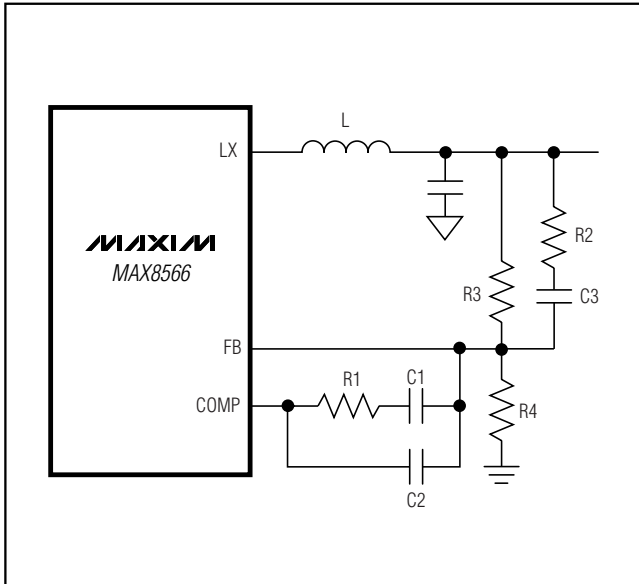

Figure 4. Type 3 Compensation Network
The high switching frequency range of the MAX8566 allows the use of ceramic output capacitors. Since the ESR of ceramic capacitors is typically very low, the frequency of the associated transfer-function zero is higher than the unity-gain crossover frequency,  $f_c$ , and the zero cannot be used to compensate for the double pole created by the output filtering inductor and capacitor. The double pole produces a gain drop of 40dB and a phase shift of 90 degrees per decade. The error amplifier must compensate for this gain drop and phase shift to achieve a stable high-bandwidth closed-loop system. Therefore, use Type 3 compensation as shown in Figure 4. Type 3 compensation possesses three poles and two zeros with the first pole,  $f_{P1\_EA}$ , located at 0 frequency (DC). Locations of other poles and zeros of the Type 3 compensation are given by:
Begin by setting the desired output voltage. The output voltage is set using a resistor-divider from the output to GND with FB at the center tap (R3 and R4 in Figure 4). Use 20kΩ for R4 and calculate R3 as: